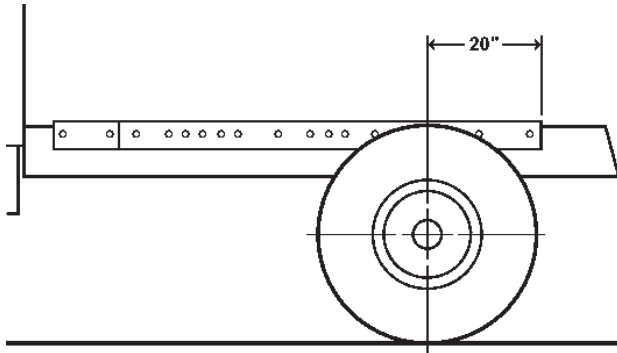

FIGURE 7.3
- (d) Measure 20" from center line of axle towards cab and mark. See Figure 7.3.
- (f) After modifications are completed, securely clamp the mounting angles to the chassis frame. Refer to Figure 7.3.
- (g) Using existing holes in mounting angles as a template, drill seventeen (17) 29/32" holes through frame rails.